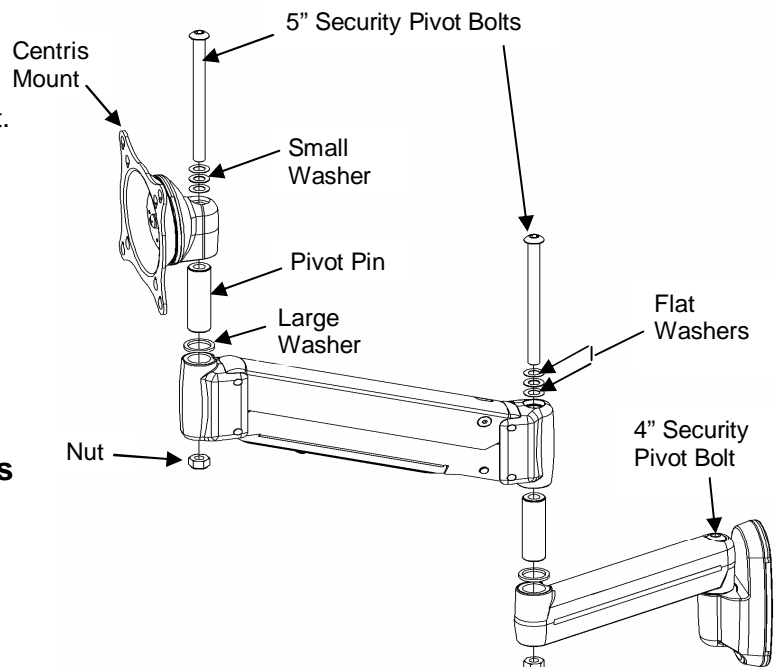

Figure 5. Install 5-inch Security Pivot Bolt (Lift Arm Example)
2. Remove the 5-inch pivot bolt from the Centris mount. Exercise care to retain the other parts shown in Figure 5.
3. Install the 5-inch security pivot bolt (20) at the Centris mount. Make sure the other parts are installed in place as shown in Figure 5.
4. Repeat Steps 2 and 3 to install the second 5-inch security pivot bolt (20) into the other end of the mount.
2. Remove and replace the regular pivot bolt with the applicable security pivot bolt (see Figure 5).